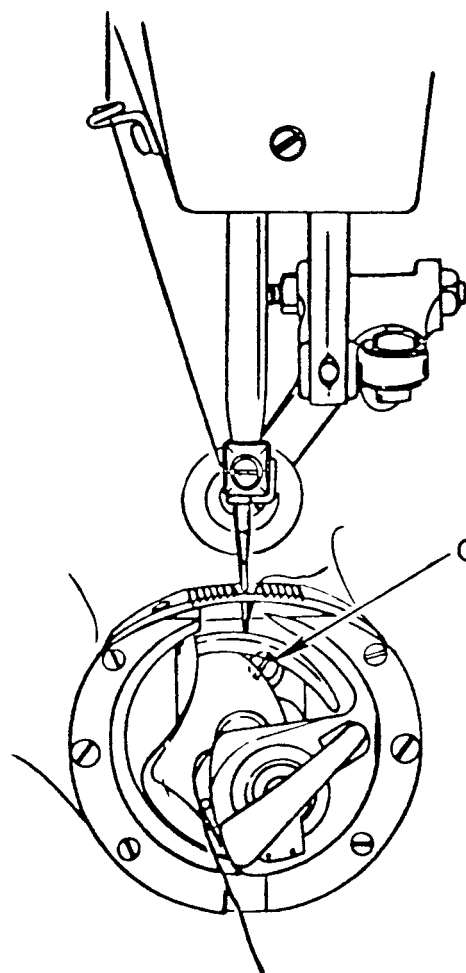

Fig. 9 Shuttle Threaded and Replaced
Insert the bottom of the shuttle into the race first, being careful that the needle bar is at its lowest point, then push the shuttle into the race as far as it will go, having the point of the shuttle above the arm of the shuttle driver. Allow about two inches of thread to hang free from the shuttle through the slot in the bottom of the race (see Fig. 9), then replace the cap.
The feed dog should be set so that when it is raised, slightly less than the full depth of the teeth will project above the throat plate. To raise or lower the feed dog, loosen the screw (O, Fig. 9) and raise or lower the feed dog as required, then tighten the screw (O).